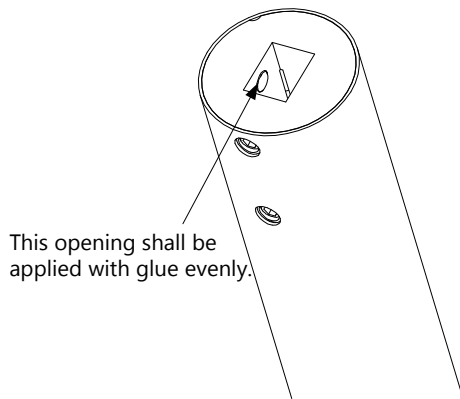

Figure 2-2
1. Open the glue and apply in the square openings of the arms as well as the four countersunk screws, as shown in figure 2-2. (This is to prevent screws from getting loose due to vibration after being used for a long time.)